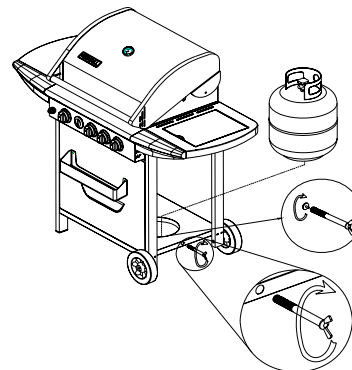

Figure 15
1. From Rear of the cart, place foot ring of 20 lb tank into the hole in bottom shelf. Make sure the tank valve is in OFF position. (Fig.15)